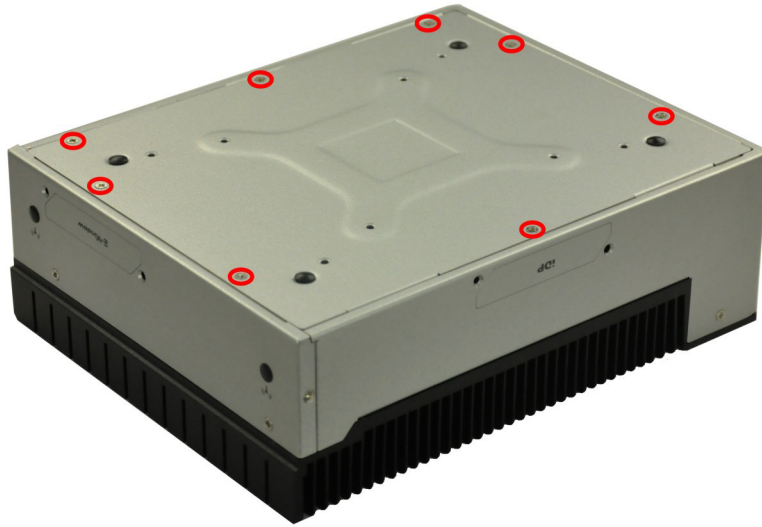

Figure 3-1: Bottom Panel Retention Screws
Step 1: Remove the bottom panel by removing the eight retention screws from the bottom panel. See **Figure 3-1**.